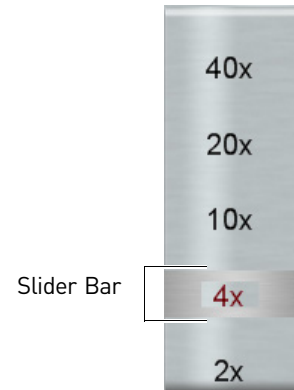

Figure 22 Objective control
3. Change the objective as needed by tapping or clicking the label corresponding to the chosen objective. The selected objective is red (see Figure 22).